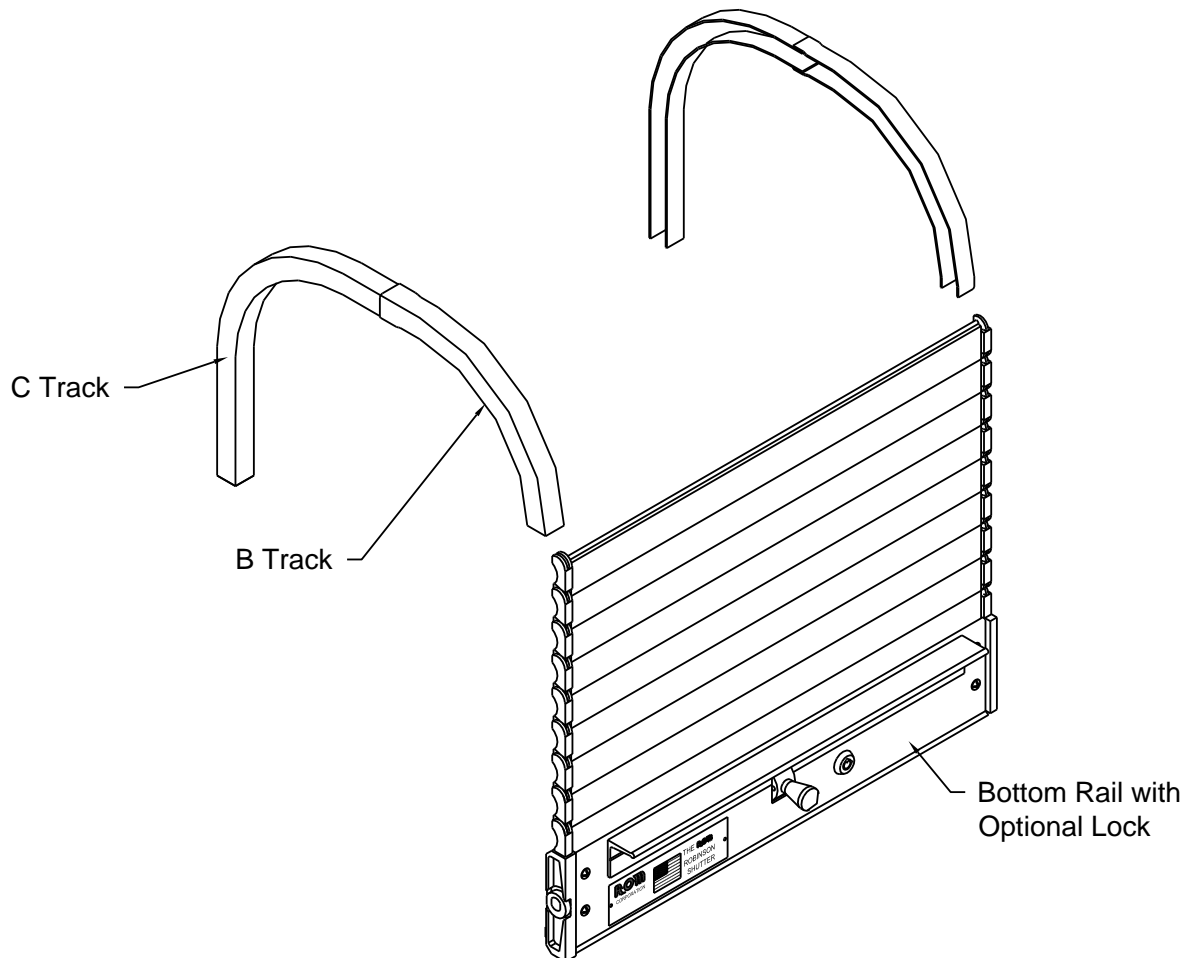

Fig. 2
- a) Insert the rear of the shutter first into track “B” (Fig. 2 shown with optional lock). Slide the shutter so that the bottom rail is completely inserted into track “B”. Manipulate the latch so that the shutter can move freely in the track while inserting.